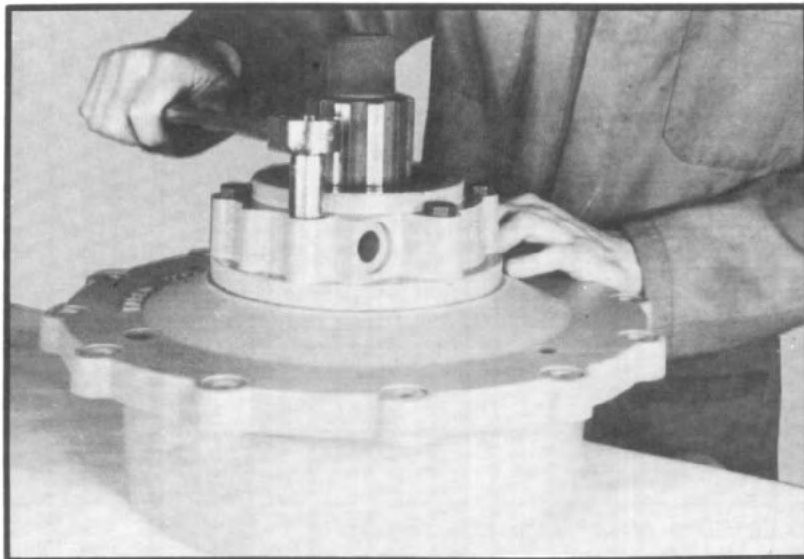

Fig. 157
- 3.27 Assemble seal carrier and gasket to planetary carrier cap using the six capscrews. Be sure to align oil passages. Tighten capscrews to correct torque. (See fig. 157.)